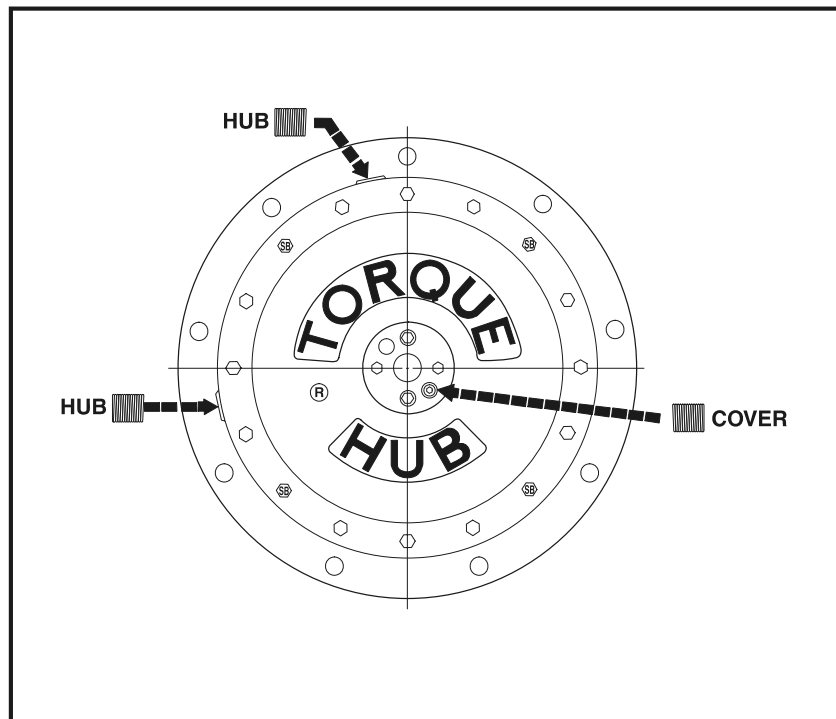

Figure 2-10. Torque Hub Cover Pipe Plug Alignment
- 20. Place cover assembly onto ring gear. Align pipe plug holes in cover and hub as shown in Figure 2-10. Make sure shoulder bolt holes in cover and ring gear are aligned.